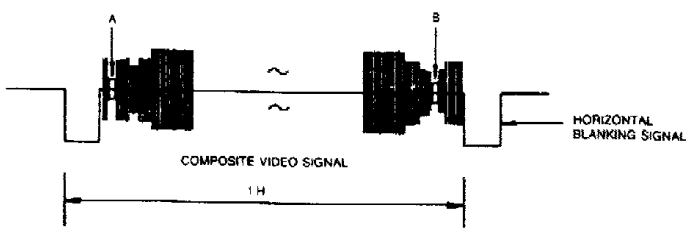

Figure 4: Waveform of Alignment Oscilloscope
- 4- Adjust VR 501 for minimum amplitude of point A and B as shown in figure 4